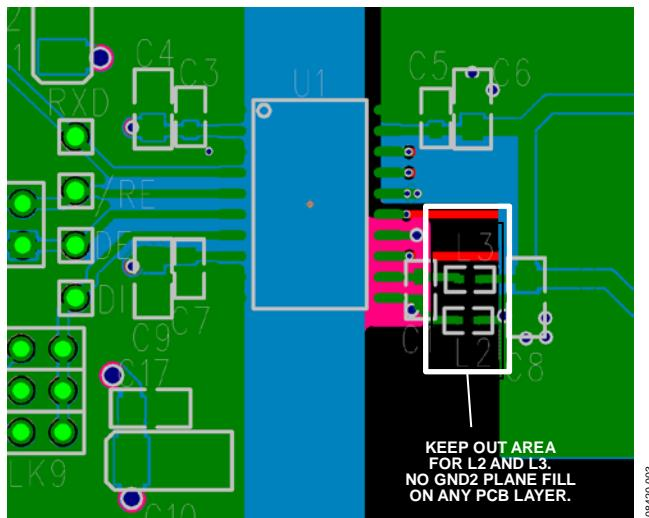

Figure 3. Layout Notes for EVAL-ADM2582EEBZ and EVAL-ADM2587EEBZ
| Changes to Figure 3 .....   | 6  |
| Changes to Figure 3 .....   | 4  |
- Do not connect the  $V_{ISOOUT}$  pin to a power plane; connect between  $V_{ISOOUT}$  and  $V_{ISOIN}$  using a PCB trace. Ensure that  $V_{ISOIN}$  (Pin 19) is connected through the L3 ferrite to  $V_{ISOOUT}$  (Pin 12), as shown in Figure 3.
- Ensure that  $GND_2$  (Pin 16) is connected to  $GND_2$  (Pin 11) on the outside (bus side) of the L2 ferrite, as shown in Figure 3.